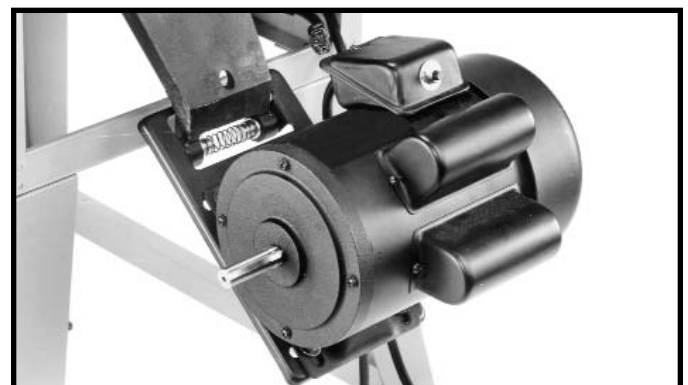

Fig. 19
5. Fig. 19, illustrates the motor and motor mounting plate assembled to the rear of the saw.